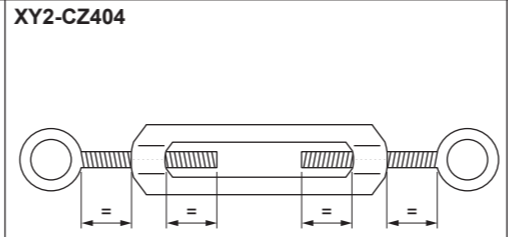

Fig. 3
- Adjust the turnbuckle XY2-CZ404 to the centre point. (Fig. 3).